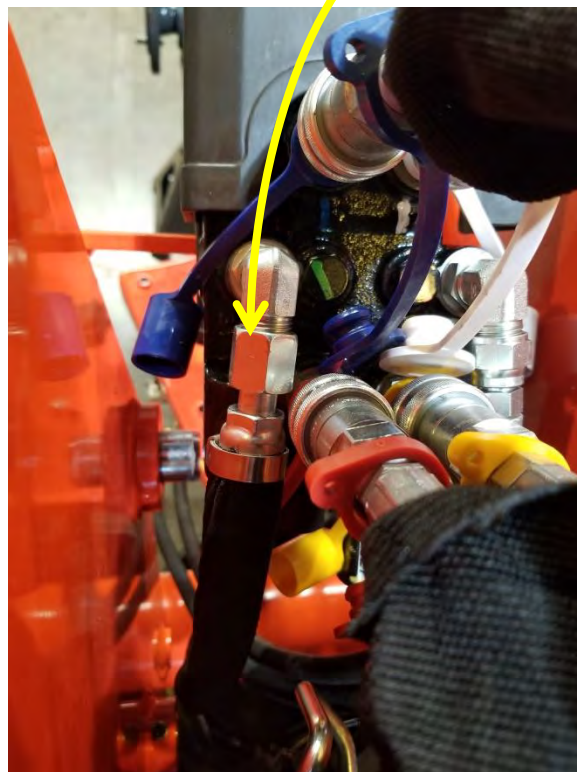

Figure 20: Loader Power Beyond port
24. Route the 65" hose around the Loader Mainframe and install to the port shown in Figure 20.